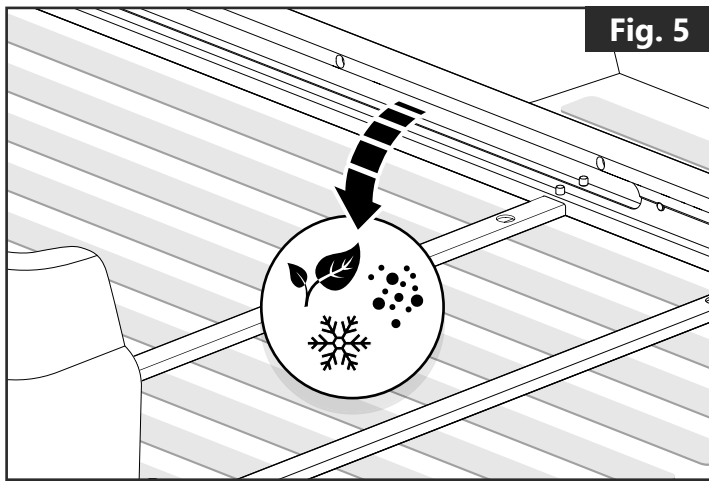

Fig. 5
- Regularly clean the side rails to assure proper operation. Refer to the maintenance section (5.1) for proper cleaning procedures. **(Fig. 5)**